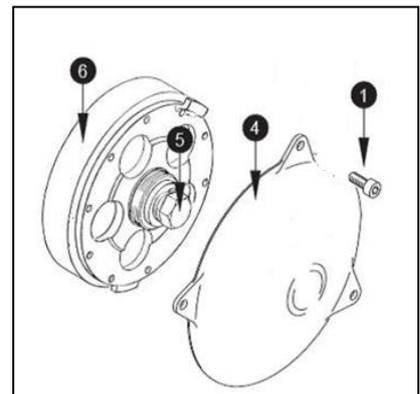

Fig. 5
-unload 3 M6\*16 screws(1)( Fig. 5), move ignition cover(4). Manually rotate the fly wheel(6) by screw(5) 3 rounds anticlockwise. Install ignition cover after change the position. Tighten the screws in 10N•m.